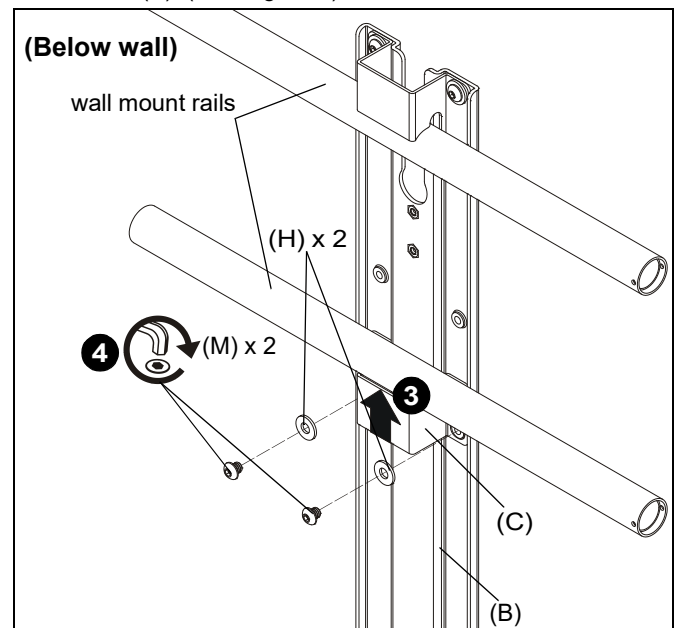

Figure 4
3. Slide second shelf bracket (C) underneath lower rail on wall mount, lining up holes on shelf bracket (C) to main bracket (B). (See Figure 4)
4. Use two 1/4-20 x 1/4" button head cap screws (M) and two large washers (H) to secure shelf bracket (C) to main bracket (B). (See Figure 4)